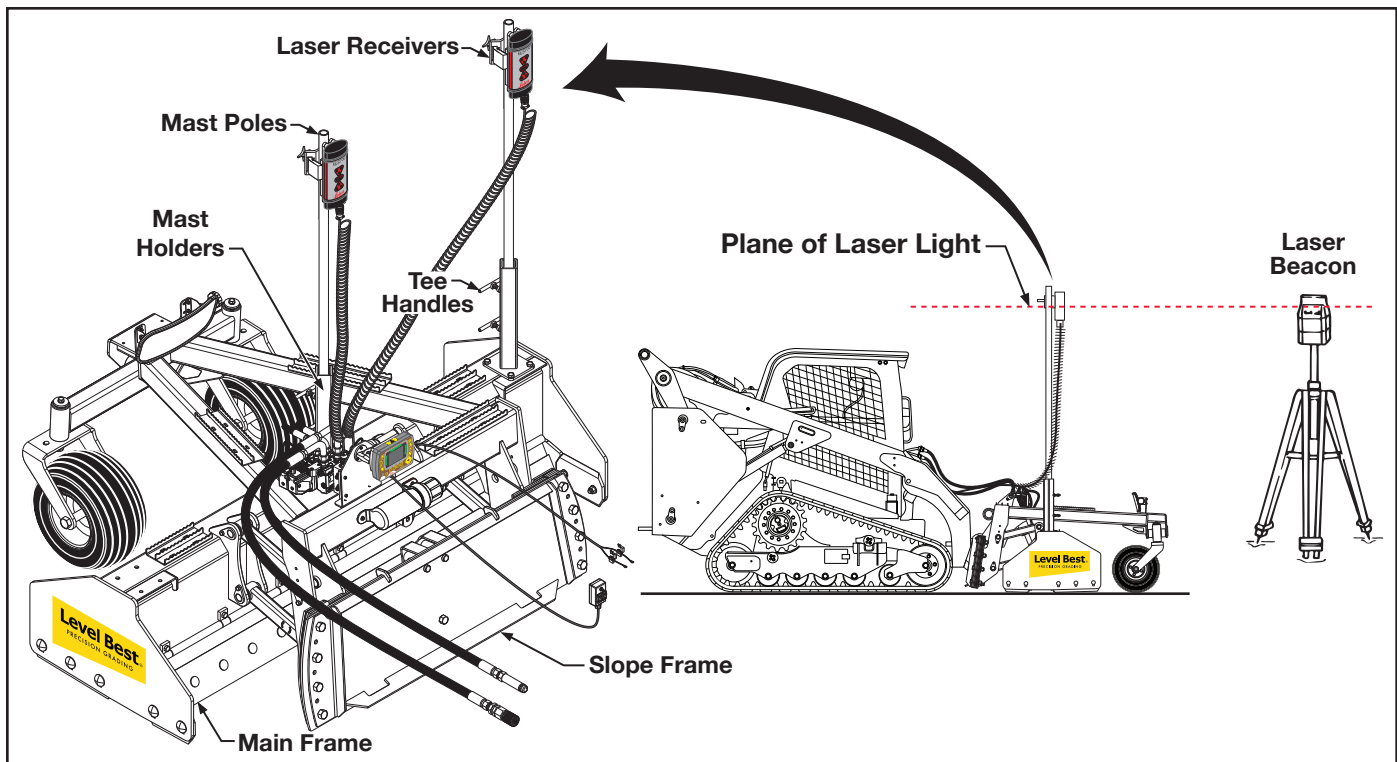

Figure 23. Components of the Automatic Control System on a Skid Steer.
6. Insert the two Mast Poles in the holders, one in the center and one on the right side, until they rest at the bottom of the tube. Tighten the tee handles to secure the masts. Clamp a Laser Receiver near the top of each mast so it is higher than any local obstructions including the skid steer cab or fall protection devices. (Refer to Figure 23.)